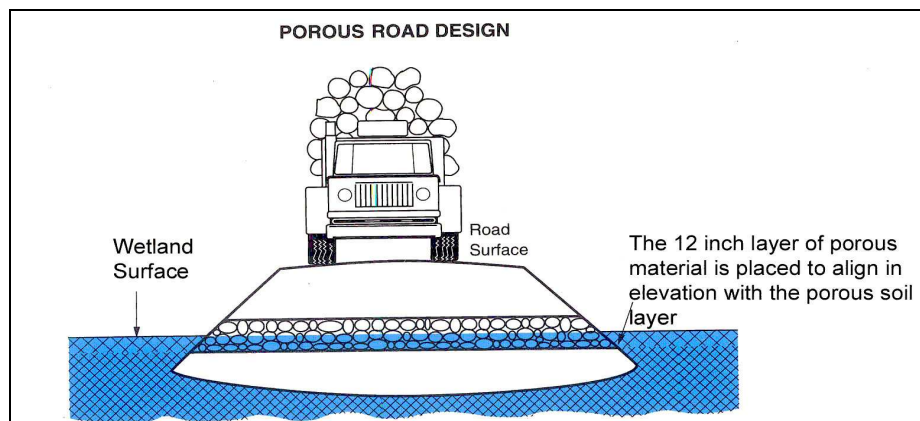

Figure 23. Porous Road Design Using Large Stone.
- The road should be constructed across the top of the soil surface by placing fill material on top of geotextile fabric, while allowing for cross drainage via the use of a 12 inch thick layer of porous material such as large stone into the roadbed (see Figure 23). This material should be separated from the adjacent fill layers by geotextile fabric, and be incorporated into the road fill design so as to lie in the top 12 inches of the soil to provide continuous cross drainage. Corduroy or pvc bundles could be alternatives.